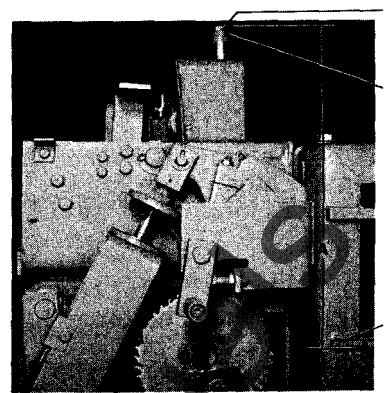

Figure 14. (8034464) Plunger Interlock
Refer to Figure 14. With the breaker in the closed position, the vertical distance "A" from the top of the plunger bolt (1) to the bottom of the breaker lifting rail (3) should be $16-19/32''$ to $16-23/32''$. To change this adjustment, add or remove washers (2).